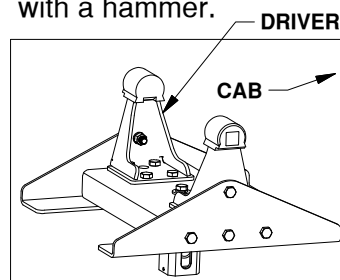
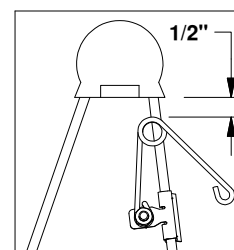

Figure C3: Base View.
Figure C4: Driver side pivot arm. PAGE 2 of 4
2. **Attach kit.** Locate the flange which will be closest to the truck cab on the driver side pivot arm, see Figure C3. The clip should be placed so that when the spring's coil is in the line with the edge of the arm there will be 1/2" of clearance between the bottom of the polyurethane bushing and the top of the spring, see Figure C4. Drive the clip securely onto the flange with a hammer.